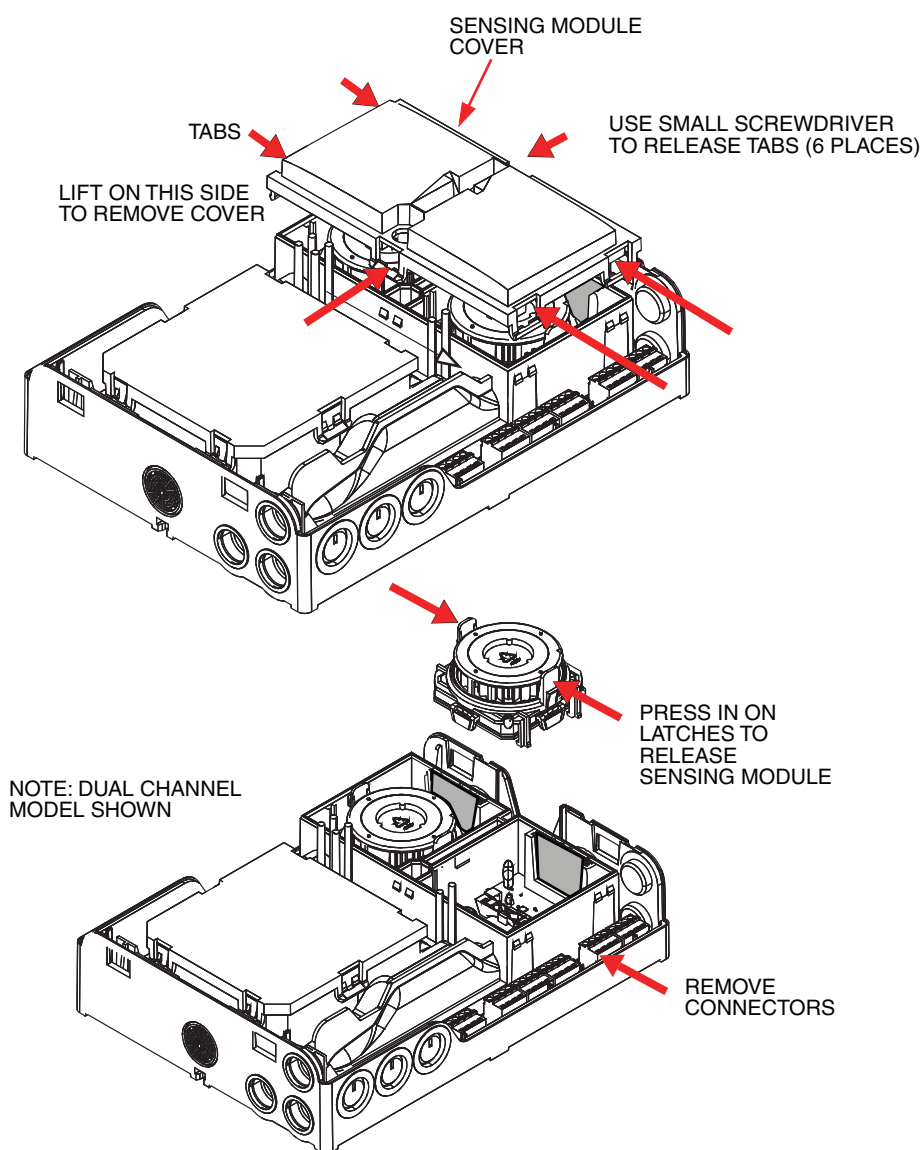

Figure 8-1: Sensing Module Replacement
2. Using a small screwdriver, release six locking tabs, and remove Sensing Module Cover (see Figure 8-1).